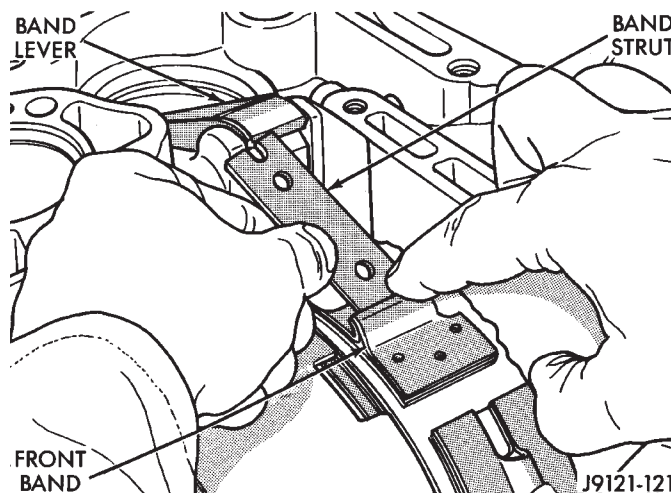

Fig. 74 Front Band Strut
(17) Squeeze front band together and remove band strut (Fig. 74).